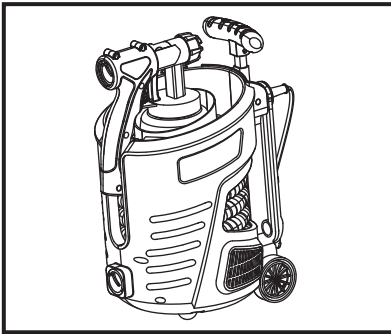

Fig. 18
- > Disconnect the air hose (10) from the spray gun and the air outlet nozzle (9). Store the air hose (10) and the spray gun in their storage compartments (11, 13) of the product (Fig. 18, 19).